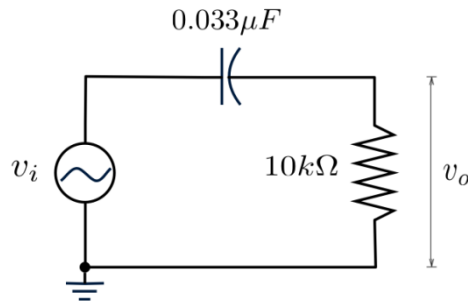

Figure 6. First-order High Pass Filter Circuit
b) Connect V_i to channel 1 of the analog oscilloscope (or virtual oscilloscope) and V_o to channel 2 of the oscilloscope. Sketch the input and output voltage waveforms in Figure 6 while indicating t_d , V_o , and v_i as well as the oscilloscope settings (VOLTS/DIV and TIME/DIV).